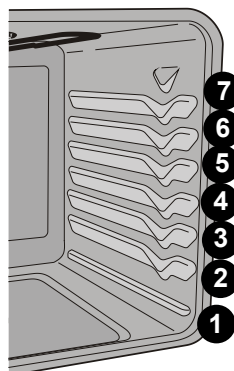

Fig. 1
- For best results when baking cakes using 2 oven racks, place racks in positions 2 and 5 (Figure 1).